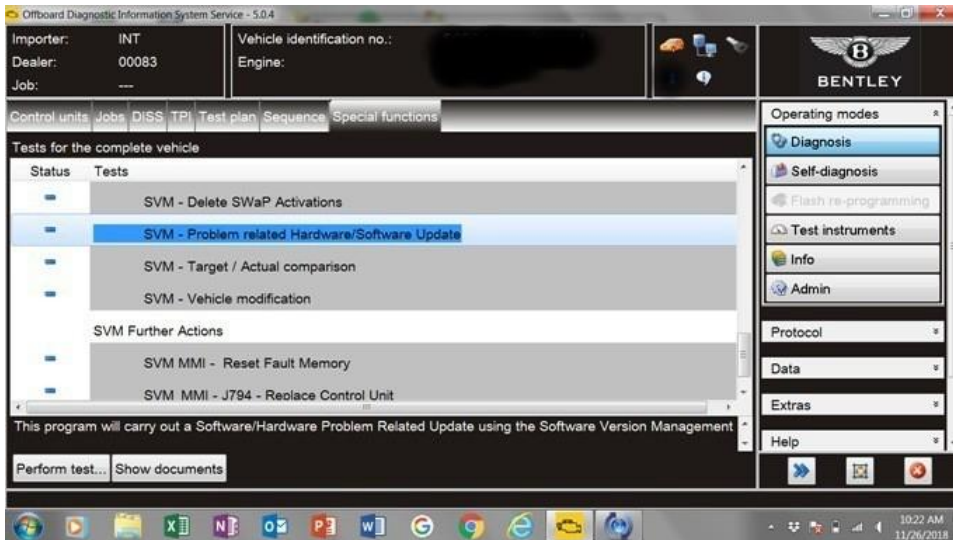

Figure 3
- Within the Special functions tab select SVM–Problem related Hardware/Software update then select Perform test (Figure 3).